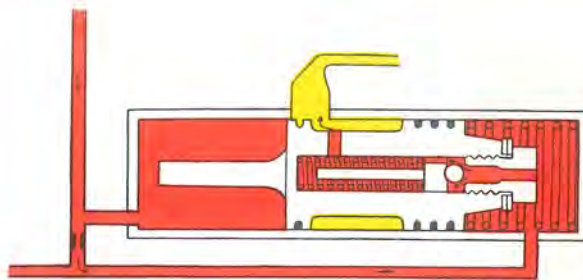

Fig. 6-51. Control valve, maximum pressure
The check valve's (2) function is to ensure that the pressure on the left-hand side of the control valve piston is higher than that in the line and also to the right of the piston. When the spring pressure is overcome, the piston is, therefore, displaced to the right. And when the speed is sufficiently high in relation to the counterpressure, the piston has been displaced so much that the surplus oil can flow back to the inlet side of the pump, see Fig. 6-50. Since the pump should deliver a quantity smaller than the maximum capacity, this valve adjustment can be called normal. Should the pump flow through the outlet be stopped, for example, because the front wheel turning is blocked, the pressure in the delivery line (1), will rise and the pressure difference between both ends of the control valve will be equalized. This will cause the spring to be moved to the left, the connection with the return channel to be closed and the pressure to rise even more. At about 75 kp/cm2 (1066 psi) the spring pressure on the safety valve (6) is overcome, that is, the inner part of the control valve, and oil can then pass out to the return channel (4). See Fig. 6-51. The pressure on the right-hand side of the piston will then drop and the entire control valve will be moved to the right so that the connection with the return channel opens. When the pressure drops to its normal value, the safety valve closes and the control valve returns to its normal position.